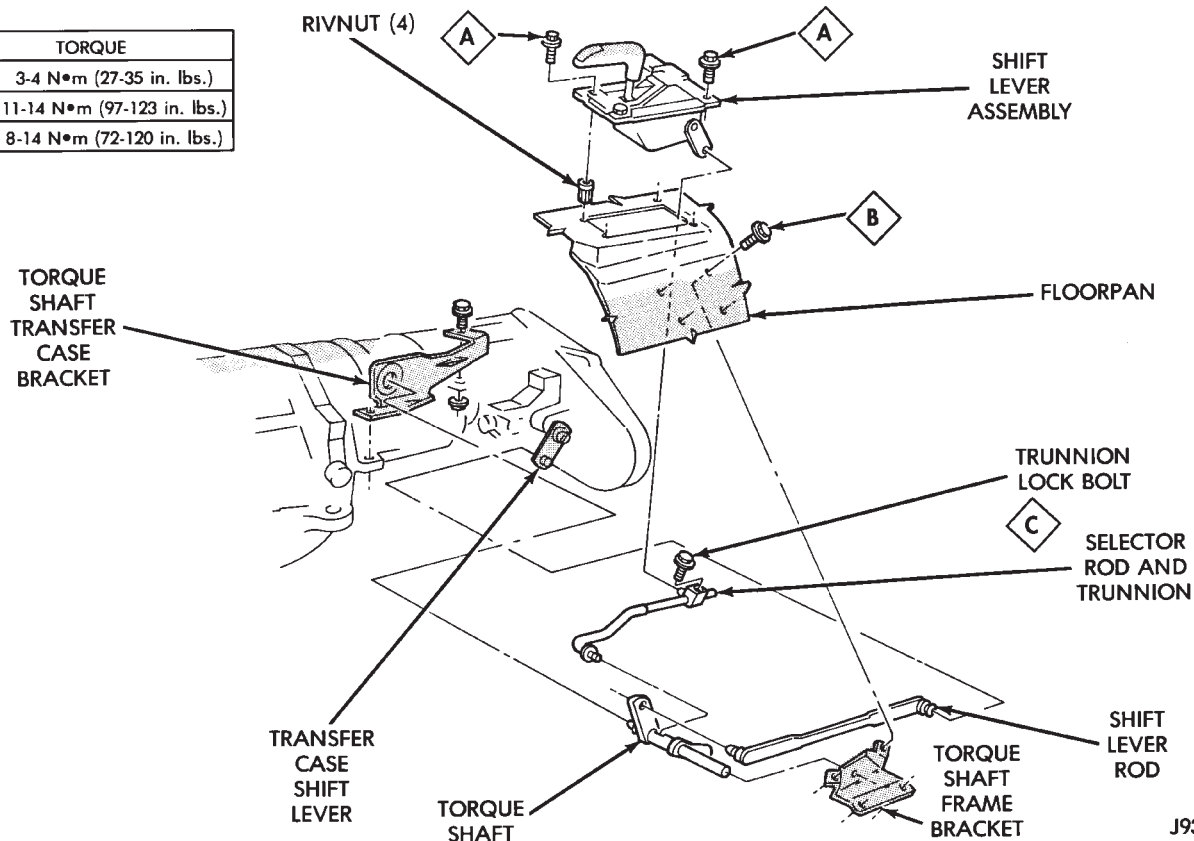

Fig. 78 Transfer Case Shift Linkage
- (1) Shift transfer case into Neutral position.
- (2) Raise vehicle on hoist that will allow all four wheels to rotate freely.
- (3) Loosen trunnion lock bolt (Fig. 78). Loosen bolt enough so selector rod slides freely in trunnion.
- (4) Verify that shift lever on transfer case is in Neutral position.